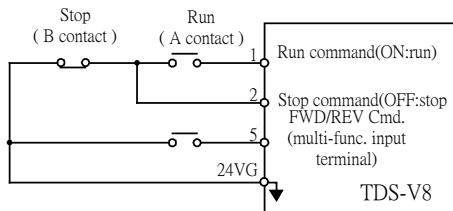

Fig.22 3-wire mode connection diagram
Under 3-wire initialization mode (Sn-03= 04 or 06 or 08), the Multi-Function Input Terminals ⑤ have setting “00”, the inverter will be in 3-wire mode operation. As shown in Fig 22, the Forward/Reverse change mode is set at the terminal ⑤.(Sn-25 = 00)